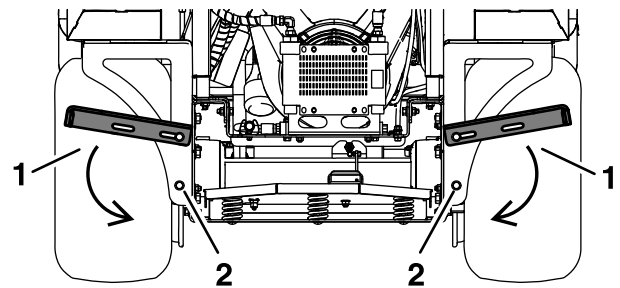

Figure 4
1. Remove the lower bolts and loosen the tops bolts so that the brackets can rotate downward into the correct position (Figure 4).
2. Install the lower bolts through the bracket and frame and tighten the 4 bolts (Figure 4).